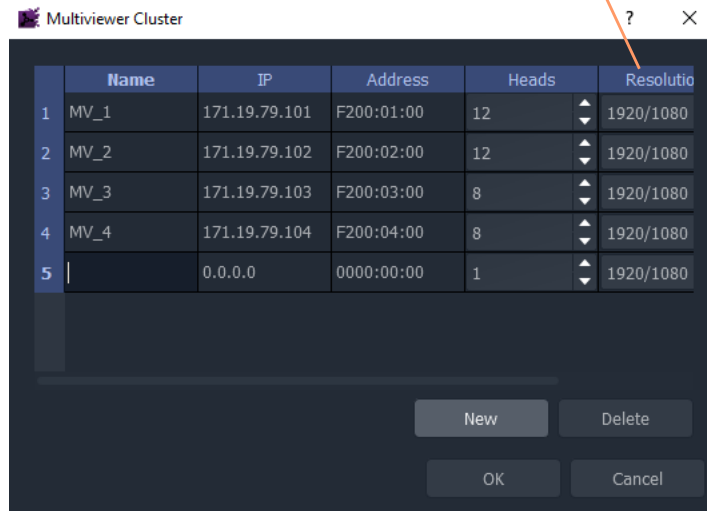

Fig. 14-23: Multiviewer Cluster Dialog- Adding New Multiviewer Device
- 1 Click **New** to add the information about each multiviewer of the cluster. See Figure 14-23.